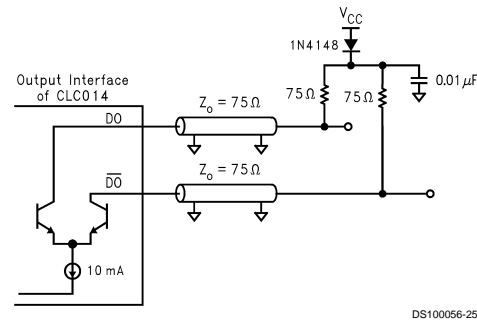
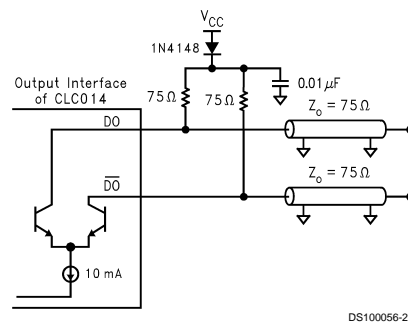
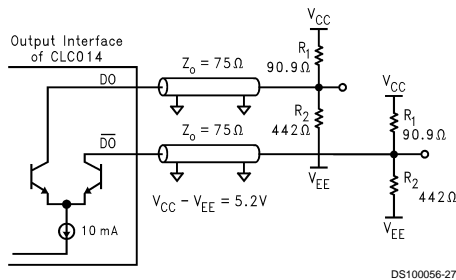

FIGURE 5. Differential Load Terminated Output Interface
FIGURE 6. Differential Source Terminated Output Interface
FIGURE 7. Alternative Load Terminated Output Interface
*Figure 5* shows a recommended circuit for implementing a differential output that is terminated at the load. A diode and 75Ω resistor provides a voltage drop from the positive supply (+5V for PECL or Ground for ECL operation) to establish proper ECL levels. The resistors terminate the cable to the characteristic impedance. The output voltage swing is determined by the CLC014 output current (10 mA) times the termination resistor. For the circuit in *Figure 5*, the nominal output voltage swing is 750 mV.
*Figure 6* is similar to *Figure 5* except that the termination is provided at the source. This configuration may also be used for single-ended applications. However, the unused output must still be terminated as shown.
When the two outputs must be routed to physically separate locations, the circuit in *Figure 6* may be applied. Alternatively, if load termination is desired, the circuit in *Figure 7*